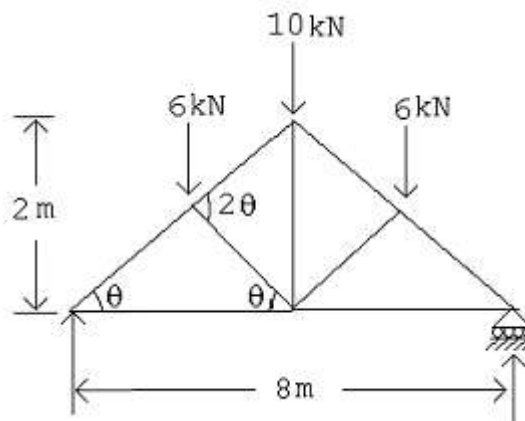

Figure: 1
2. Design the tension member carrying maximum force and the compression member carrying minimum force for the roof-truss loaded as shown in Figure 1. [24]